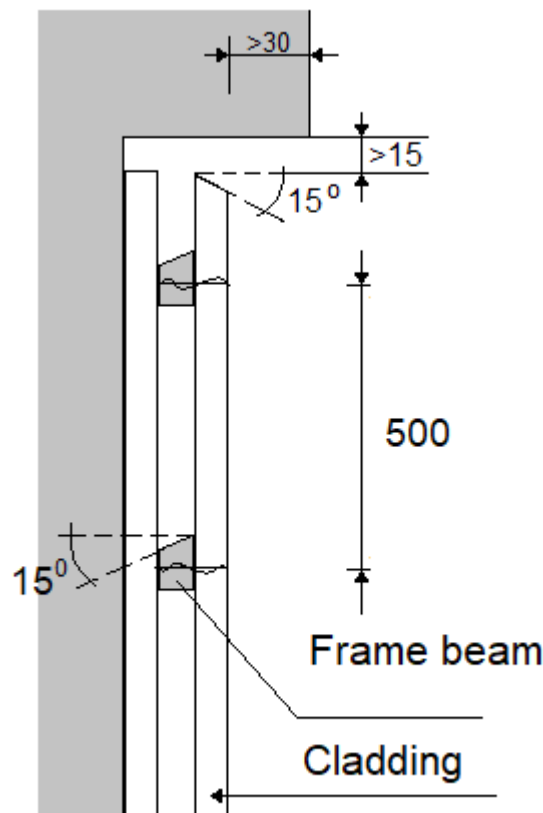

Figure 1. Vertical installation scheme. All measurements are provided in millimeters.
2. The fastening points (spacing between furring strips) are placed 500 mm apart (see Figure 1).
5. When installing the siding boards vertically, the furring strips are hammered horizontally, their upper edge is cut at an angle of 15 degrees (see Figure 1).
6. A gap of at least 15 mm shall be left between the lower part of the roof and the siding for ventilation, through which air can move both behind the siding and under the roof (see Figure 1).